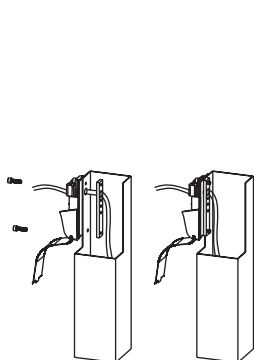

Figure 16
2. Mount the base of the pole mount kit to the pole with M8 × 25mm bolts (included). The base has hole patterns that are compatible with most existing pole drill holes. If necessary, drill new holes in pole. (Figure 16)
3. Feed supply wires from inside the pole through the mounting bracket base. (Figure 16)